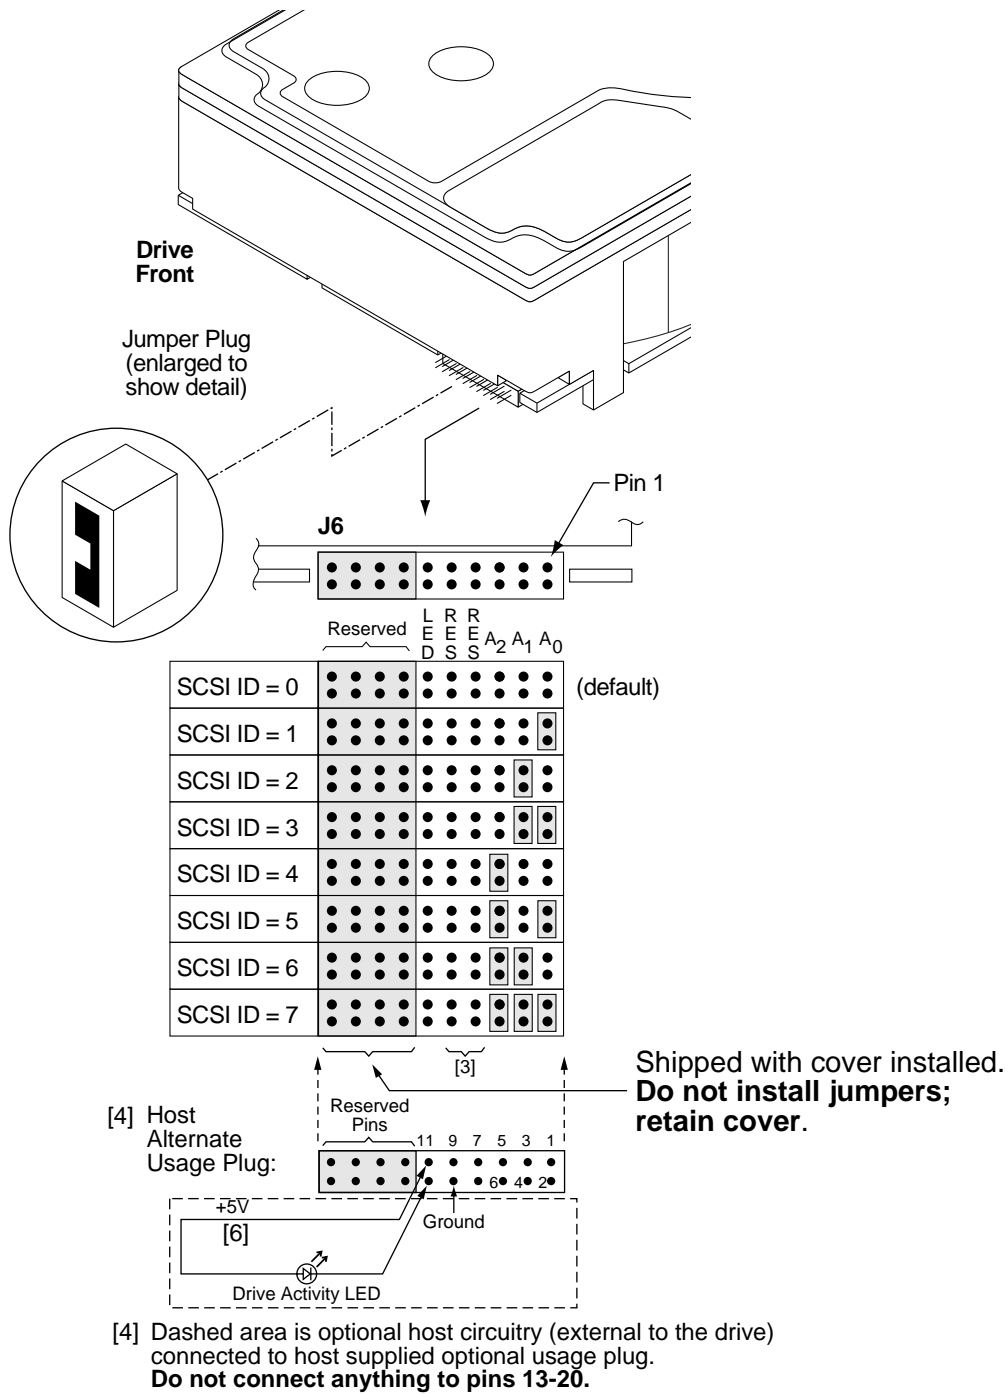
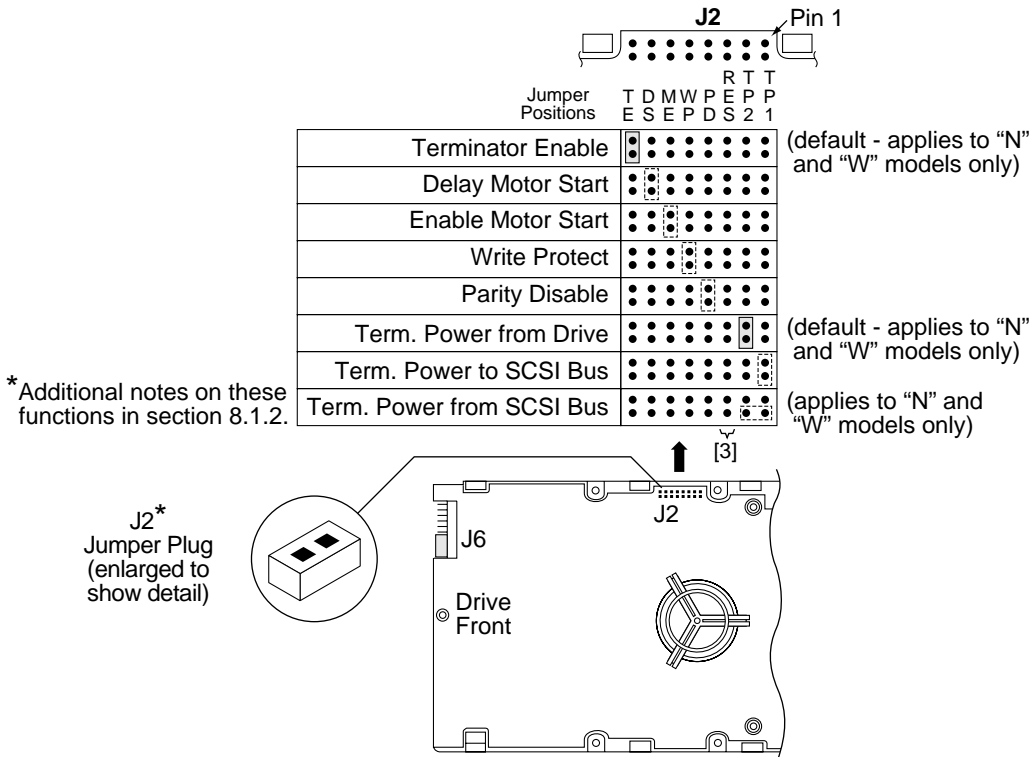

Figure 7a. Barracuda 18 family drive ID select header for models "N"
Figure 7d. Barracuda 18 family drive option select header for models “N,” “W,” and “WD”
For option jumper locations and definitions refer to Figures 7a, 7b, 7c, 7d, 7e, and 7f. Drive default mode parameters are not normally needed for installation. Refer to Section 9.3.2 for default mode parameters if they are needed.
Figures 7a through 7c show views of the drive ID select jumper connectors. Figure 7d shows the option select jumper connector for all models. Figure 7b shows a rear view of model drives for the purpose of showing J1-auxiliary of the drive. Both J1-auxiliary and J6 have pins for selecting drive ID and for connecting the remote LED cable. Only one or the other should be used, although using both at the same time would not damage the drive. The notes following the figures describe the functions of the various jumper positions on the connectors J2, J1-Auxiliary and J6. Suggested part number for the jumpers used on J2 is 3M part number 956562-30 (Seagate part number 89501860). A bag with the two jumper plug types is shipped with the standard OEM drives.
Notes for Figures 7a through 7f are in Section 8.1.1.
8.1.1 Notes for Figures 7a, 7b, 7c, 7d, 7e, and 7f.
*See Figure 7d for pins used for Termpower.